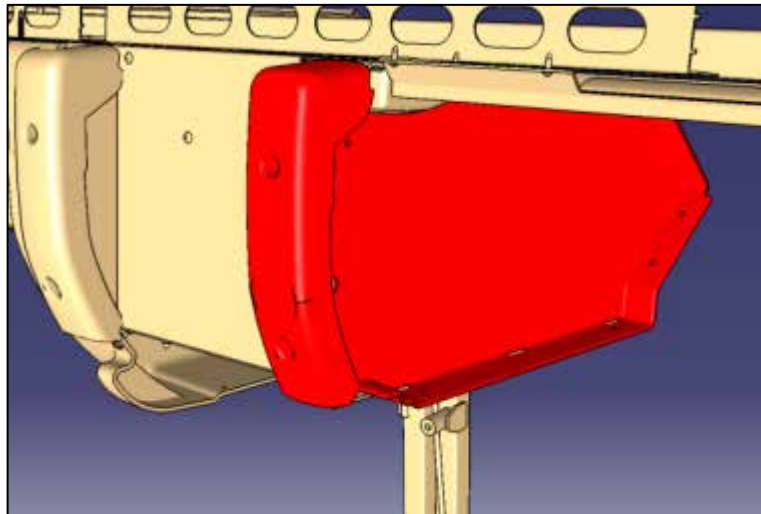

Figure 16
14. On the right side of the door, remove the capping trim and the parcel rack partition from the overhead parcel rack. Reserve hardware. (Figure 16)